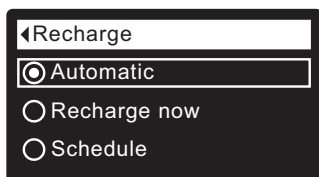
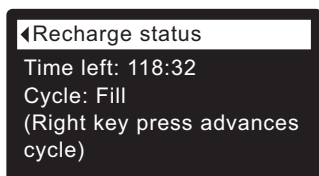

FIG. 44
FIG. 45
3. Press the SELECT (O) button to display the Recharge menu (See Figure 44).
4. If the desired option already has a dot next to it (See Figure 44), go to Step 5. Otherwise, press the DOWN (▼) or UP (▲) buttons to scroll to the desired option, then press SELECT (O) to choose it.
- **Recharge now** begins a recharge immediately after the SELECT (O) button is pushed again in Step 5.
5. Press the SELECT (O) button. If **Recharge now** is selected, the display immediately goes to the Recharge status screen (See Figure 45).